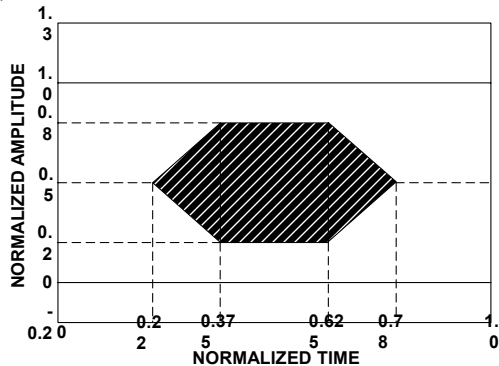

Figure 2. Transmitter Optical Eye Diagram Mask
| Optical Rise/Fall Time  | $t_r/t_f$   |      |      | 0.26 | ns                | 1, 4 and Figure 2 |
- Laser transmitter pulse response characteristics are specified by an eye diagram (Figure 2).
| Optical Rise/Fall Time        | $t_r/t_f$   |       |      | 0.26 | ns                | 1, 4 and Figure 2 |